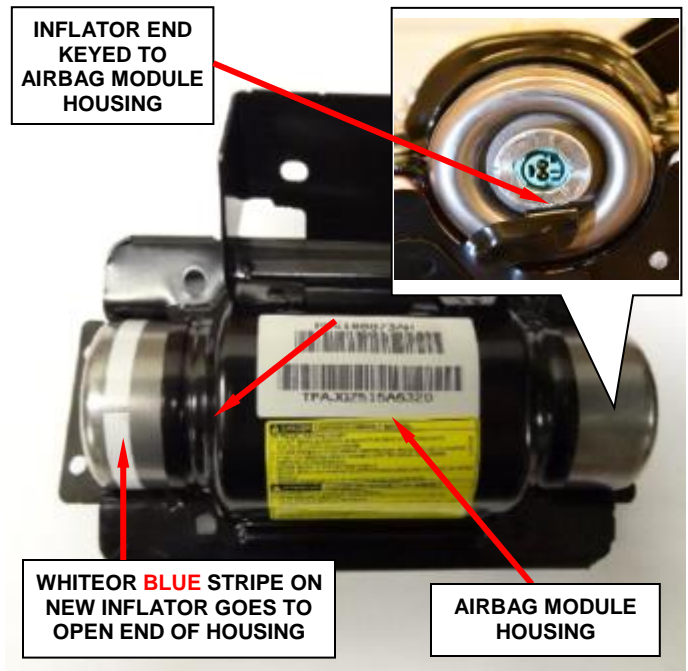

Figure 42 – Install New Inflator to Housing
NOTE: The inflator’s key **MUST** line up with the housing’s key (Figure 42).
1. Slide the **NEW** inflator into the passenger airbag module housing. The keyed end is inserted first; therefore, the white stripe on the **NEW** inflator will be located at the open end (Figure 42).